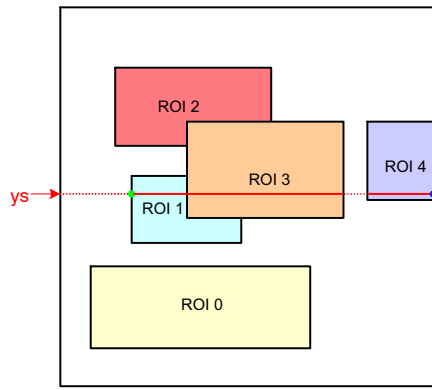

Figure 28. Scanning the Image Array with Five Windows
Figure 28 illustrates a practical example of a configuration with five windows. The current position of the read pointer (ys) is indicated by a red line crossing the image array. For this position of the read pointer, three windows need to be read out. The initial start position for the x-kernel pointer is the x-start configuration of ROI1. Kernels are scanned up to the ROI3 x-end position. From there, the x-pointer jumps to the ROI3 x-end position, which is ROI4 in this illustration. When reaching ROI4's x-end position, the read pointer is incremented to the next line and xs is reinitialized to the starting position of ROI1.
- The read pointer is not necessarily incremented by one, but depending on the configuration, it can jump in y-direction. In Figure 28, this is the case when reaching the end of ROI0 where the read pointer jumps to the y-start position of ROI1